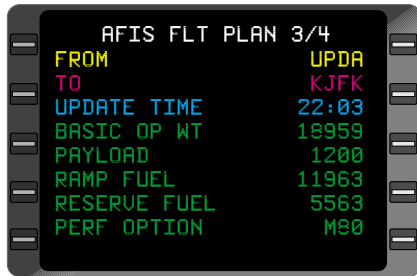

Figure 7-13
**DEP TIME:** Estimated time of departure in GMT. This field changes to **UPDATE TIME** when a flight plan is updated and indicates time of issued update. (Figure 7-13)